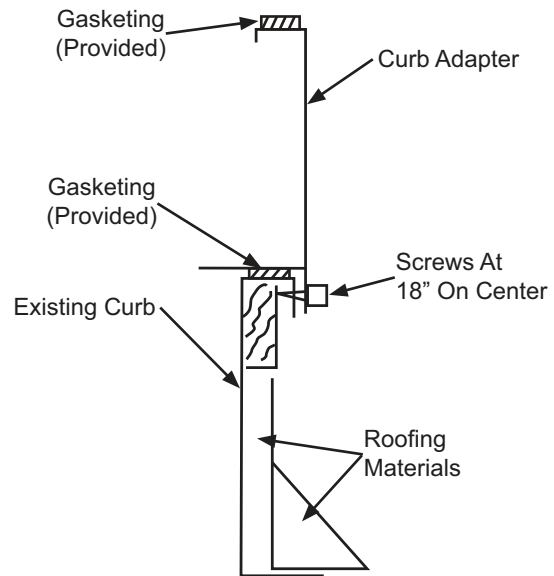

Fig. 4 - Securing Curb Adapter to Existing Curb
7. Secure the side flanges of the curb adapter to the turn down flange on the existing curb. Screws should be around the full perimeter and should be approximately 18" apart. (See Fig. 4.)